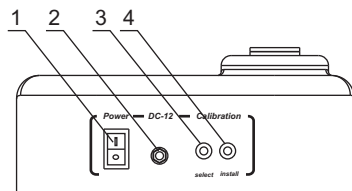

Fig.2 Rear panel
Alternatively connect the external power supply unit to the socket (fig.2/2) on the rear side of the unit.
- 3.4.2. Switch ON the unit using the **Power** switch (Fig.2/1) on the rear panel (position I).
- 3.4.3. Press the **Select** button (fig.2/3) on the backside of the unit (use a thin pin with maximum diameter of 2 mm to press the **Select** and **Install** buttons). A flashing "- - -" indication will be shown on the display, showing that the unit is ready to save calibrations value of the first calibration point - the empty socket.
- 3.4.4. Press the **Install** button (fig.2/4), the empty socket calibration value will be saved in the unit memory and the next calibration value is displayed (flashing figure "0.00").
- 4.2. Switch ON the unit using the **Power** switch (Fig.2/1) on the rear panel (position I).